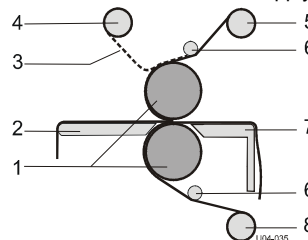

Figure 4: Creating Pop-up art.
A process that makes maximum use of the machine is shown in Figure 4. Shown is a double sided laminating (decalling) process. The top coating film is a pressure sensitive film with release liner (3) taken from a supply roll on the (rear) upper unwind shaft (5). The bottom coating film is a pressure sensitive (mounting) film without release liner taken from a supply roll on the lower unwind shaft (8).